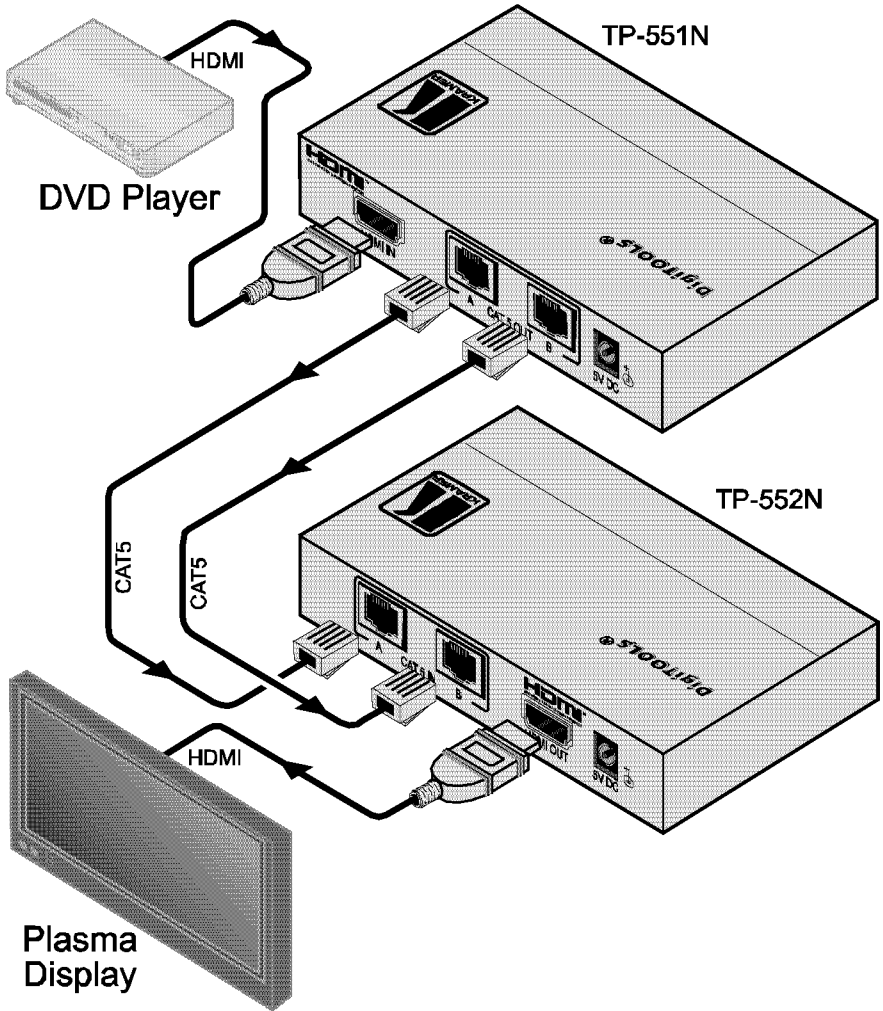

Figure 3: Connecting the TP-551N / TP-552N HDMI Line Transmitter/Receiver
To connect the **TP-551N** to the **TP-552N**, as illustrated in the example in Figure 3, do the following:
3. Connect the 5V DC power adapter to the power socket and connect the adapter to the mains electricity on both¹ the **TP-551N** and the **TP-552N** (not shown in Figure 3).